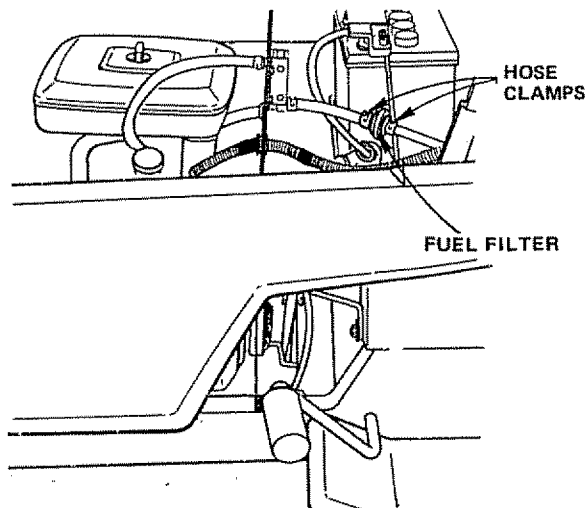

FIGURE 44
- Remove Hose Clamps from Fuel Lines at Fuel Filter (Fig. 44).